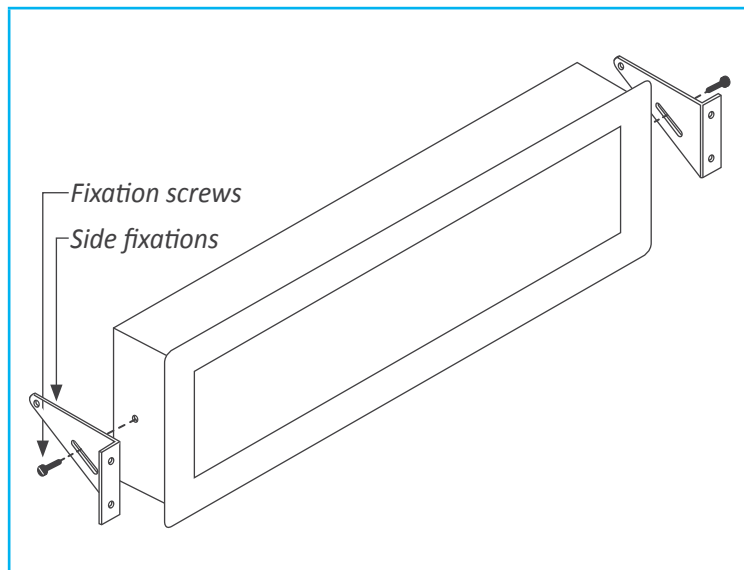

Figure 8 - Panel mount
- Panel mount. Apply the cut-out to the panel as seen on section 1.4. Remove the side fixations. Introduce the instrument into the panel cut-out. Mount the side fixations as shown (see Figure 8). Slightly loosen the fixation screw of one side and press the instrument against the panel. Tighten the fixation screw so it presses the panel and maintains the fixation. Repeat with the opposite side fixation. For IP65 protection at the panel junction, see the IPB accessories at section 3.